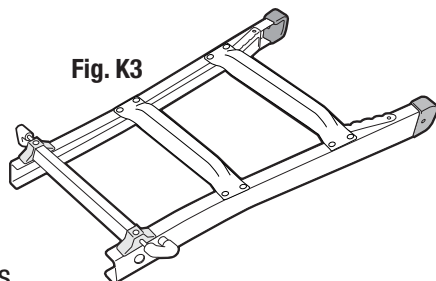

Fig. K3
3. Using separated Outer Ladder Units, place one unit flat on floor with rungs facing up. (Fig. K3)